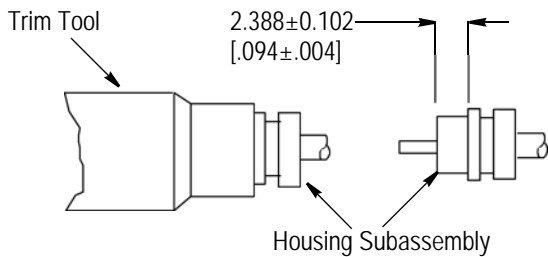

Figure 7
12. Place the trim tool over the inner cable conductor projection and rotate to face off the front face. See Figure 7. Inspect dimensional tolerances.